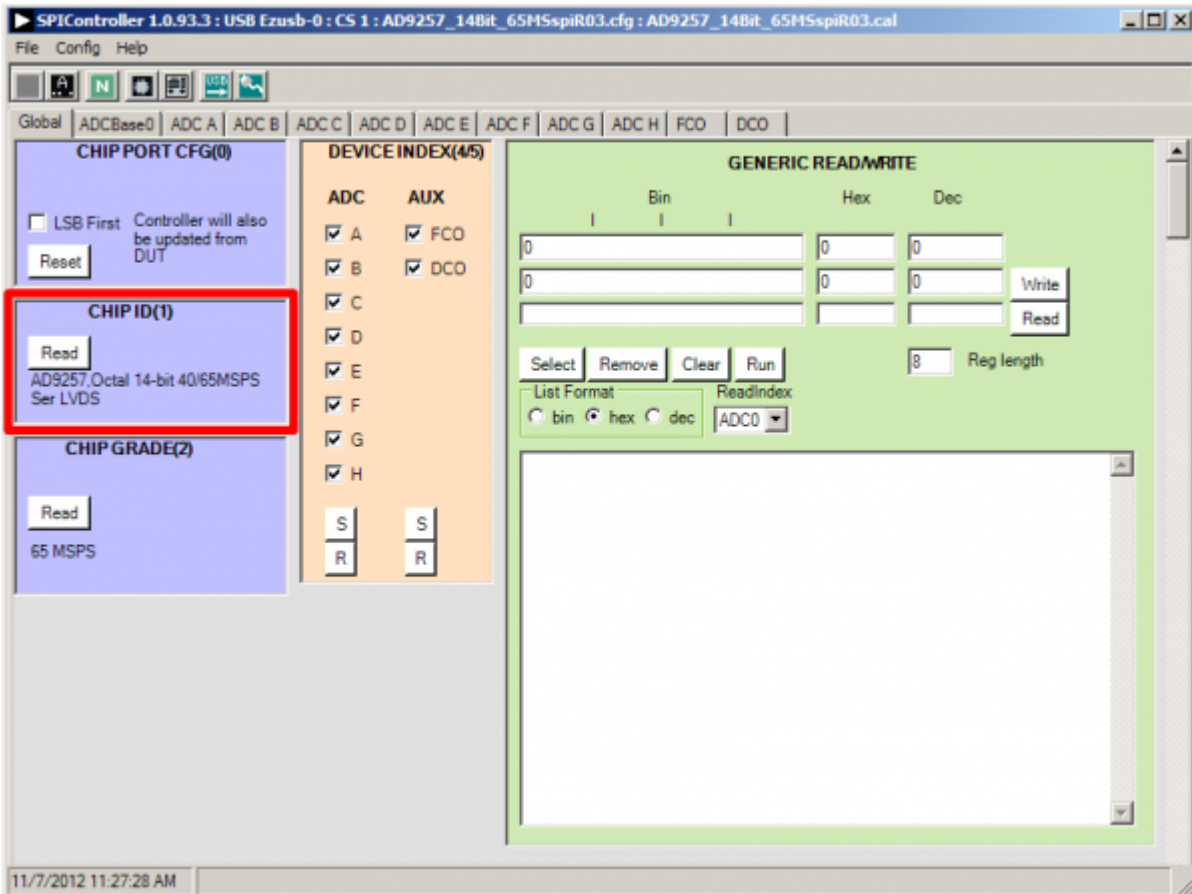

Figure 7.
1. Open the SPI controller software by going to the **Start** menu or by double-clicking the **SPIController** software desktop icon. If prompted for a configuration file, select the appropriate one. If not, check the title bar of the window to determine which configuration is loaded. If necessary, choose **Cfg Open** from the **File** menu and select the appropriate file based on your part type. Note that the **CHIP ID(1)** box should be filled to indicate whether the correct SPI controller configuration file is loaded (see Figure 7).